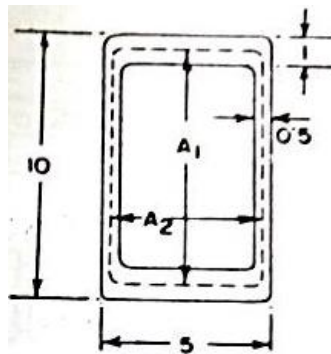

Fig. 2
- Q3 What do you mean by machine tool structure? Determine the maximum shear stress and the angle of twist for a box section as shown in Fig. 2, if it is subjected to a twisting moment of 200 kg.m. (Dimensions are in cm) [1+4]